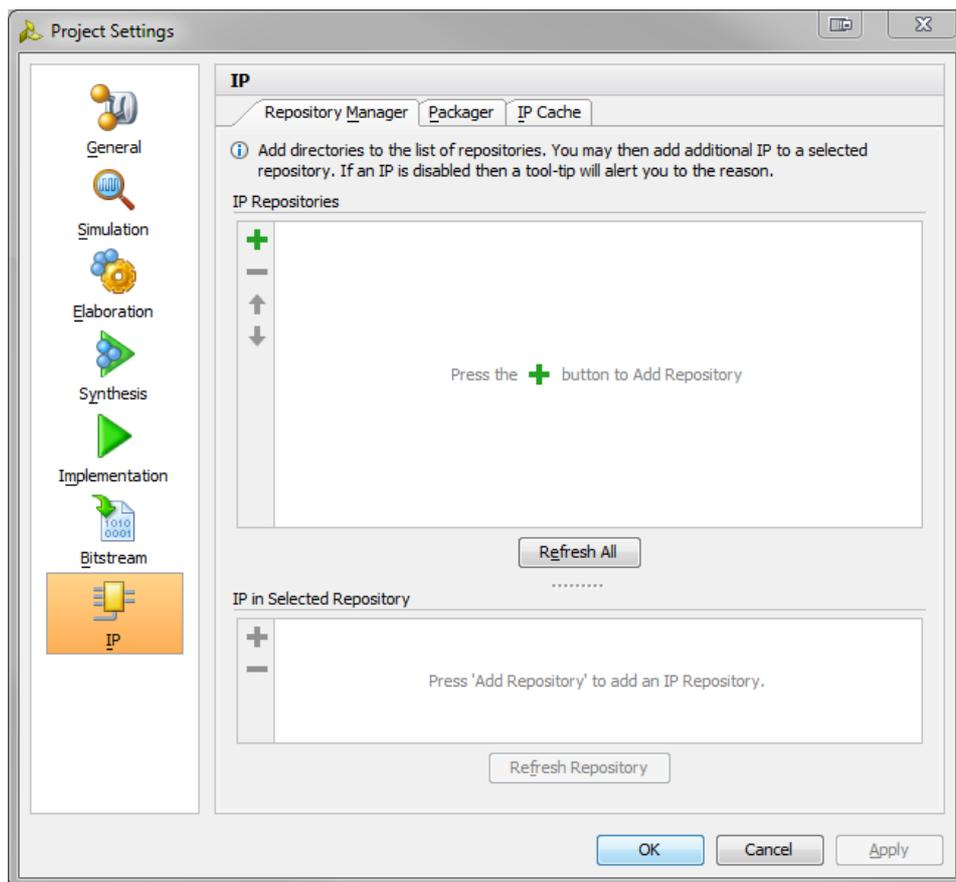

Figure 5.2: IP Settings Window
The IP Settings window will open, as shown in Figure 5.2.
- (i) We must now add the other IP sources to the repository by un-archiving them. In the Selected Repository panel, shown in Figure 5.2, click the **+** symbol to add IP.